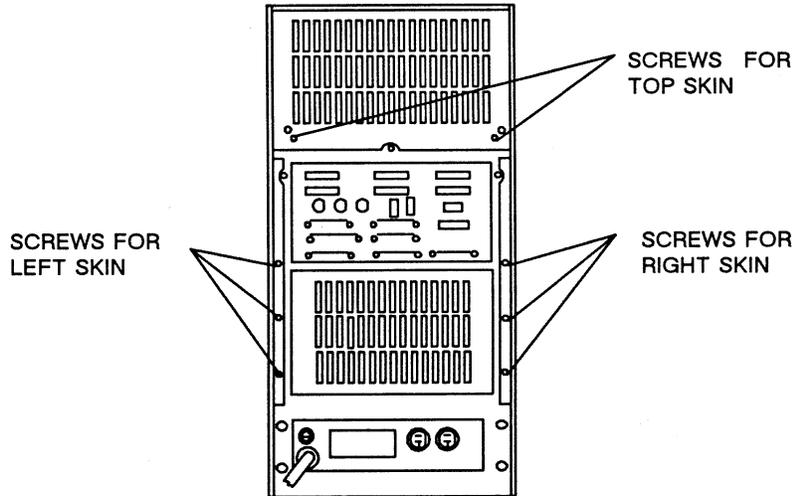

Figure 2-13. Model 31 CADDStation Deskside Module, Rear View
2. Go to the back of the deskside module and locate two screws holding the top skin to the frame. Remove and retain the screws. See Figure 2-13.
Figure 2-13 shows a rear view of the Model 31 CADDStation Deskside Module.